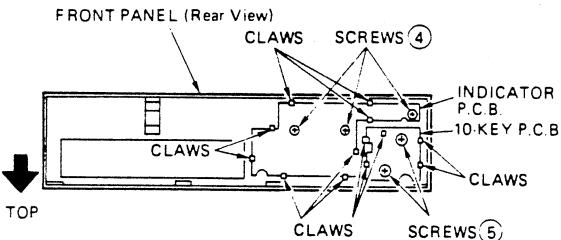

Fig. 3
- 1) Remove 3 screws ④ fixing the indicator P.C.B. and remove 2 screws ⑤ fixing the 10-key P.C.B. (Fig. 3)